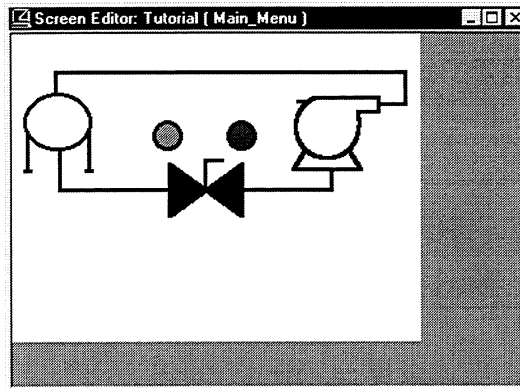

Figure 4-23. Adding a Circle to Main\_Menu Screen
1. Add another small circle above the horizontal valve, as shown in Figure 4-23.